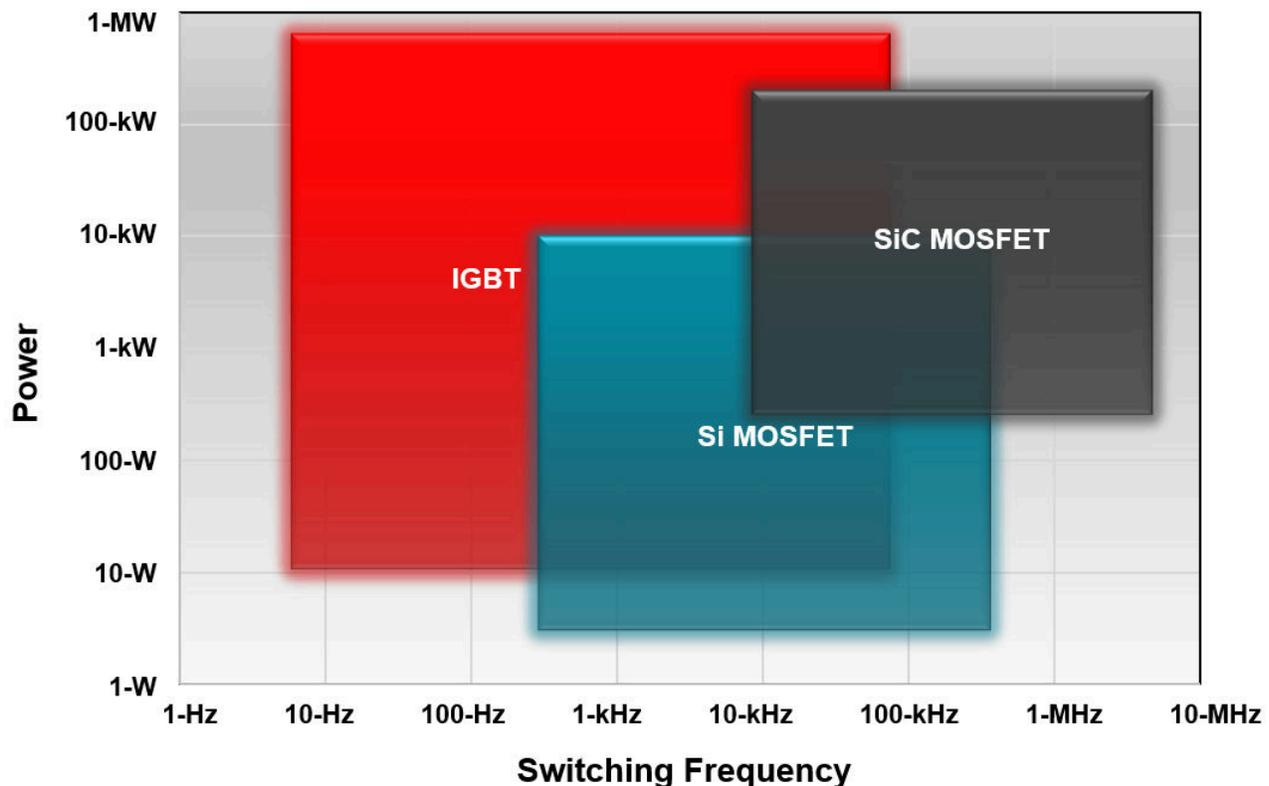

Figure 2-1. Power Switches Positioning Based on Capabilities
In the automotive industry, electric vehicles (EV) and hybrid electric vehicles (HEV) are using up to 400-V or 800-V batteries. In industrial applications within grid infrastructure and power delivery, 120-Vac or 240-Vac control is commonly used. These are high voltage (HV) systems that require high voltage switching technologies. The most common solutions in this space are Si MOSFETs, IGBTs, and SiC MOSFETs Figure 2-1. The TPSI3050-Q1 offers 5 kV reinforced isolation and AEC-Q100 qualification for automotive applications while the TPSI3050 offers 3 kV basic isolation for industrial applications.